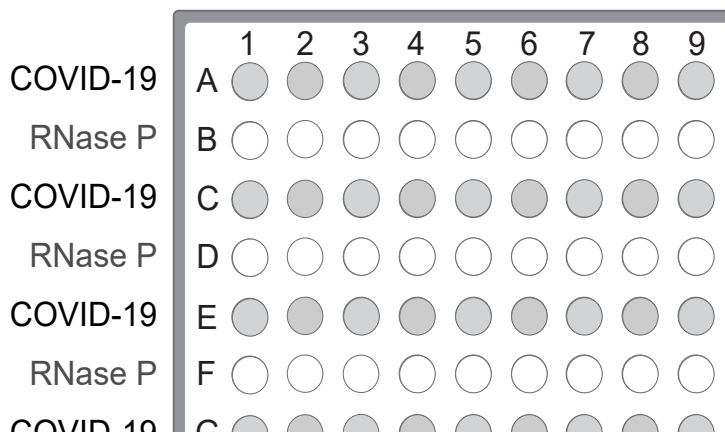

Figure 5 Assays in alternating plate rows
- a. Starting with row A, pipette 20.0  $\mu$ L per well of the COVID-19 Reaction Mix into every other row of a MicroAmp™ Fast Optical 96-Well Reaction Plate with Barcode, 0.1 mL or a MicroAmp™ Optical 96-Well Reaction Plate with Barcode, 0.2 mL. See Figure 5 on page 59. Plates without a barcode can be used (see “Required materials not supplied” on page 11).